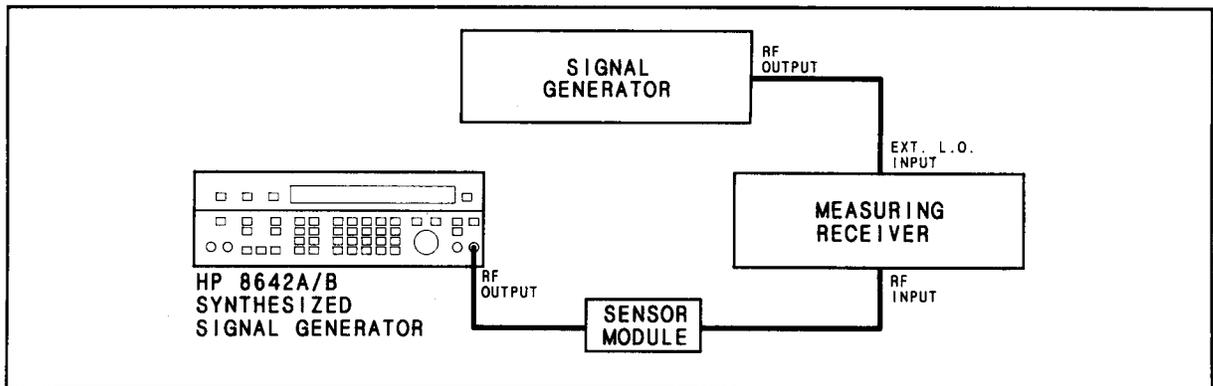

Figure 4-14. Residual Test Setup
1. Connect the equipment as shown in Figure 4-14.